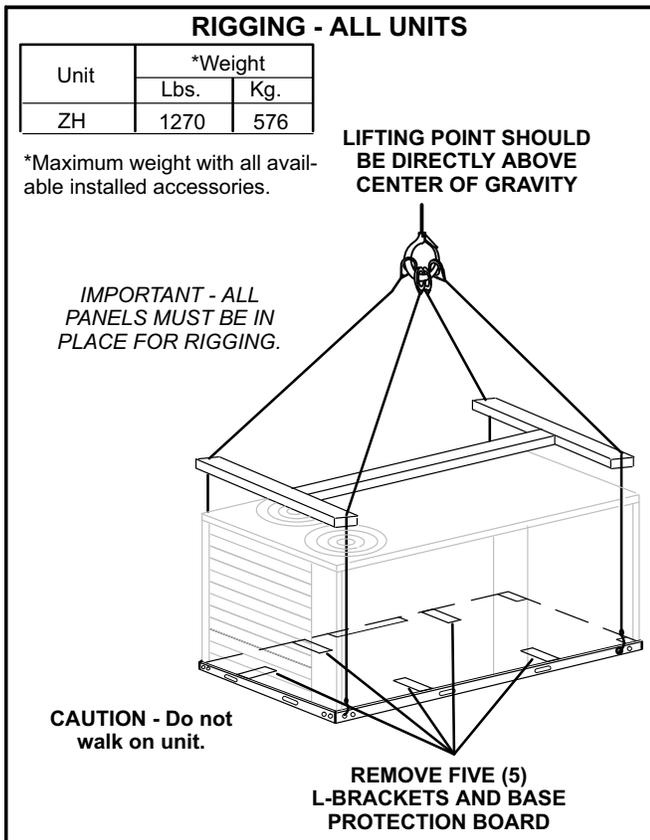

FIGURE 2
Rig unit for lifting by attaching four cables to holes in unit base rail. See figure 2.
- 5- **All Units** - Partially lift unit and remove five (5) L-brackets which secure the protective base board. See figure 2.